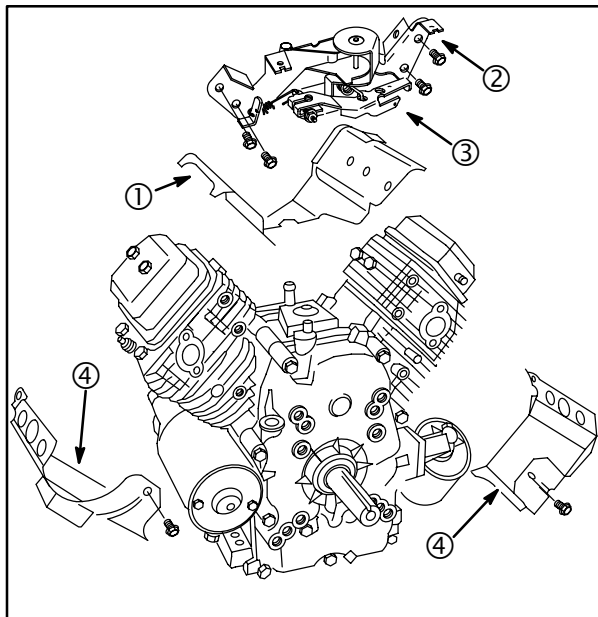

Fig. 21
1. Install cylinder shields (4) and valley cover (1), **Fig. 21**. Torque screws to **65 in. lbs. (7 Nm)**.